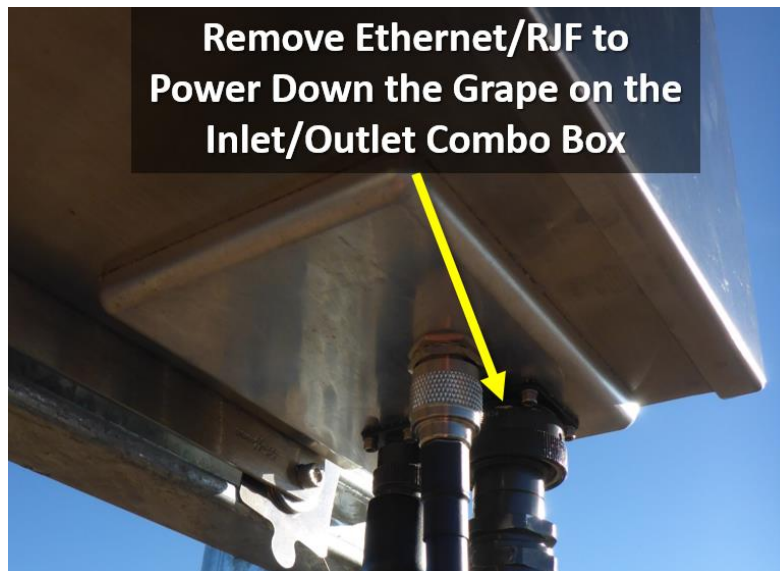

Figure 9. Power Down the Grape on the Inlet/Outlet Infrastructure
2. Power down the site at the AIS Device Post Combo Box. Disconnect the armored Ethernet cable connecting to the Combo Box (Figure 9).